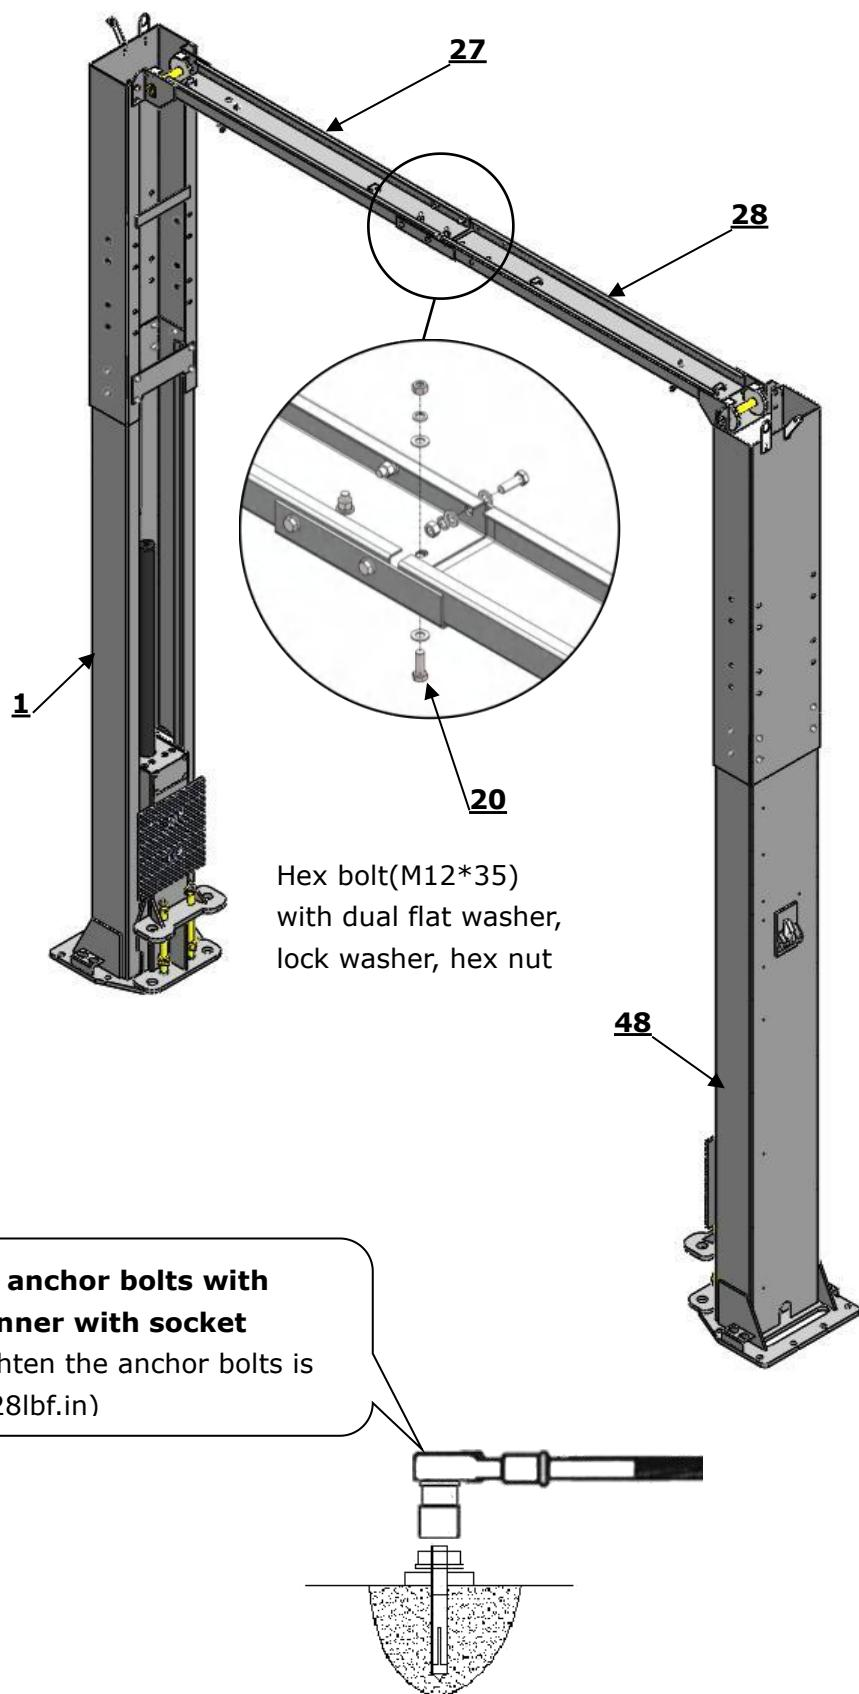

Fig.25
2. Hang the hook of top beam(Right) on the other outer column, and then connect the left and right top beam with bolts. Tighten all the bolts. (See Fig. 25)